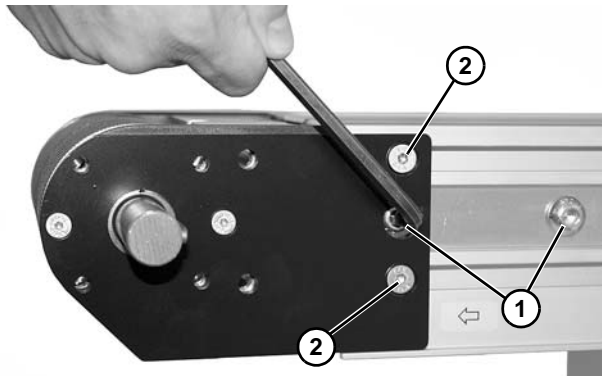

**Figure 85**
- d. Remove the four (4) lock screws (**Figure 85, item 1**) and the short side drive guard (**Figure 85, item 2**).